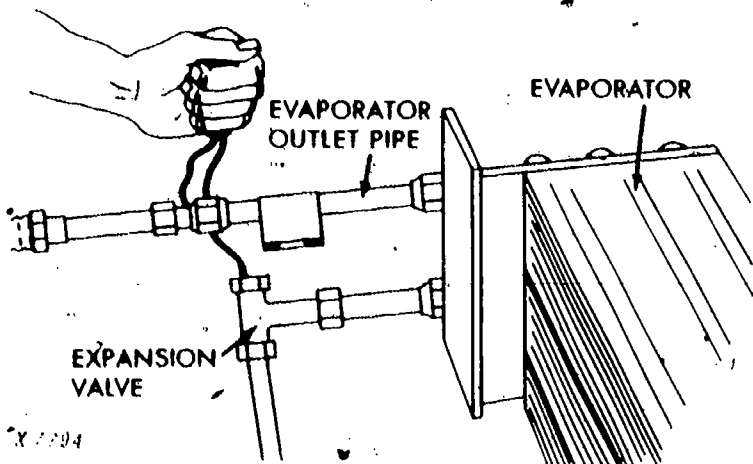

Fig. 58 — Warm Up Thermal Bulb With Hand
2. Place bulb in palm of hand and close fingers around bulb to warm it for one minute (Fig. 58).